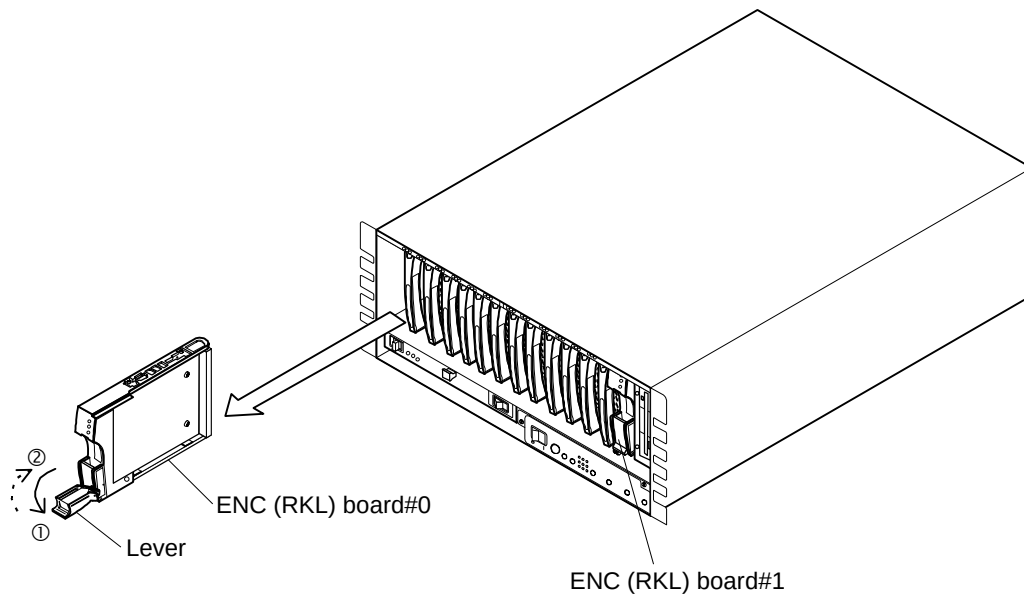

Figure 4.5.9 Replacing of ENC Board
(1) Procedure for replacement with the power turned on (See Figure 4.5.9.)